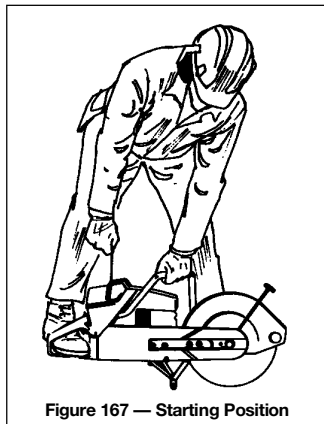

Figure 167 — Starting Position
- Set one foot on the rear handle, put one hand on the top handle to lift the blade off the surface, and use the other hand to pull the starter cord (Figure 167).